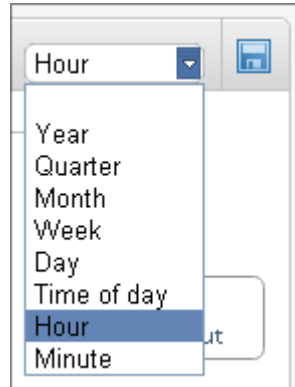

Figure 101: discretization level selection drop-down list.
4. Change discretization level in the drop-down list (Figure 101).